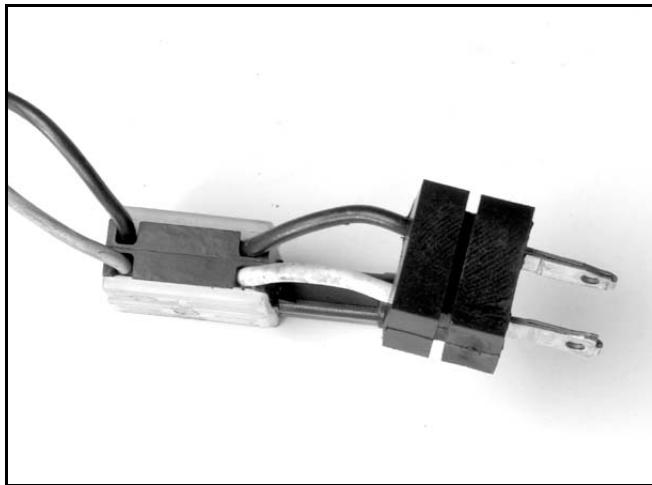

Figure 68
**NOTE:** When installing the wires, install the black wires directly across from each other and the light wires across from each other (Figure 68).